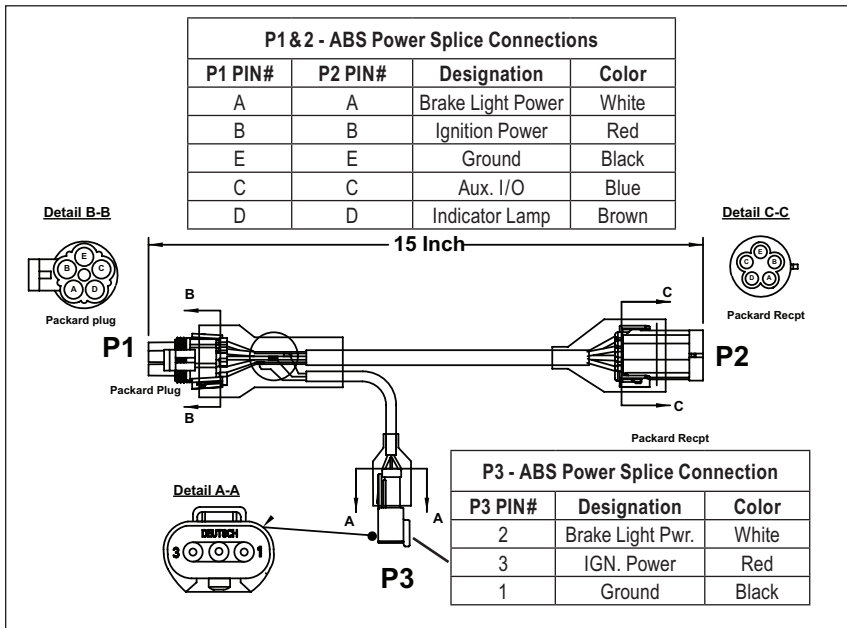
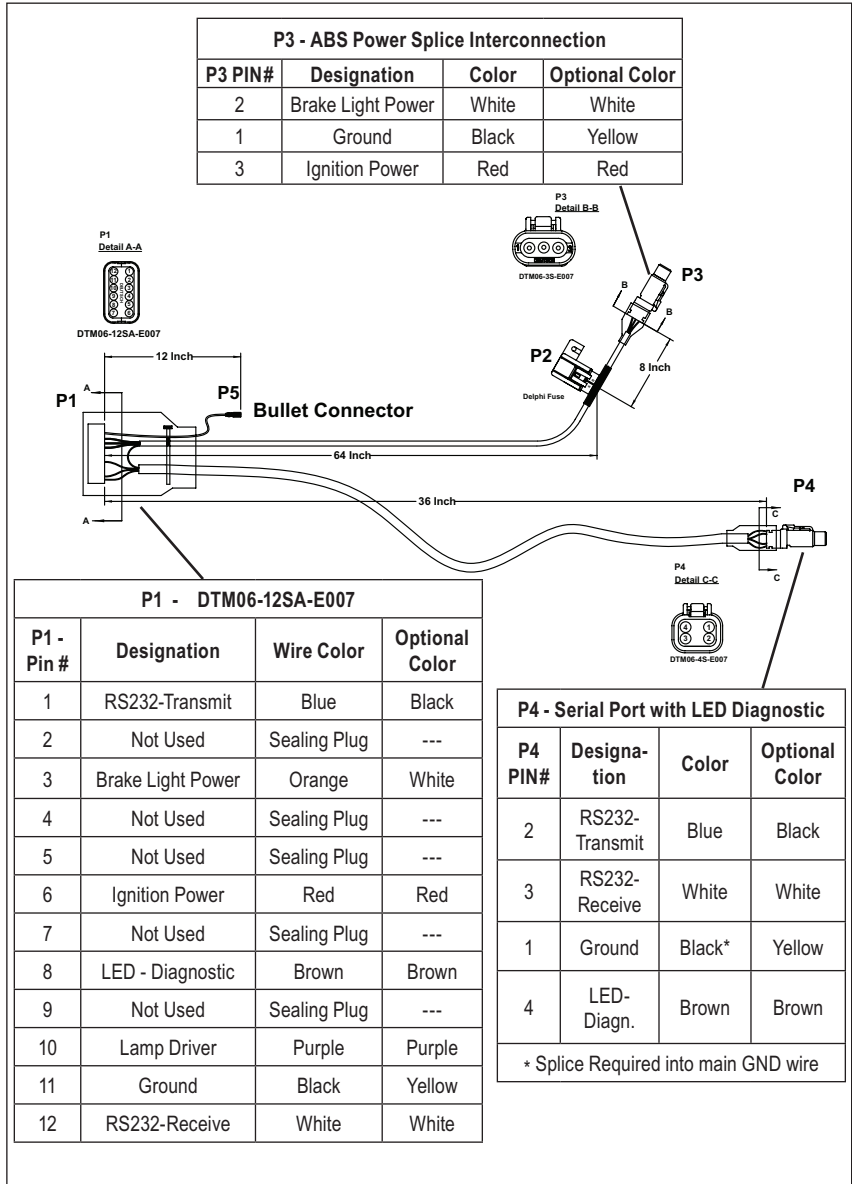

Figure 16 - SmarTire Trailer-Link™ TPMS ABS Power Splice (Part No: K075867)
Figure 17 - 6ft SmarTire® Trailer-Link™ TPMS Harness Part No: K075868
**Step 6.** After installing the ABS Power Splice harness, connect the 3-pin power connector, (P3 in Figure 16) to the SmarTire Trailer-Link™ TPMS Wiring Harness, (P3 in Figure 17). Then route the harness along the underside of the trailer, taking care to avoid any slider mounts and suspension components. Secure the harness every foot with zip ties. Connect the other end of the harness, P1 in Figure 17 to the SmarTire Trailer-Link ECU.
**Step 7.** Route the 4-pin diagnostic LED line to the side of the trailer or slider and secure the line every foot with zip ties. Ensure the Bendix diagnostics LED Cap part number K075866 is placed over the end of the diagnostic connector, P4 in Figure 17 when not used with the Maintenance Hand tool. Connect the trailer to power and watch for the LED to light up briefly to confirm the SmarTire Trailer-Link ECU is functional. Refer to the blink code table in *Section C* for more information.
If the optional trailer warning lamp is not installed, please use the supplied dielectric grease and fill the trailer lamp output connector (P5 in Figure 17) with grease to protect it from corrosion. For instructions on how to install the optional trailer warning lamp, continue to step 9.
**Optional Step 9.** Using the lamp output connector (P5 in Figure 17) a trailer lamp may also be installed at the nose of the trailer to provide trailer TPMS alerts regardless if the tractor is equipped with a SmarTire TPMS unit. Extend a power line from the connector to the lamp (standard 12-24V lamp with max one (1) Amp draw can be used, not provided by Bendix) and ground the lamp to the trailer chassis at its mounting point. Place the provided Trailer Lamp alert sticker underneath the trailer lamp. See *Section C* for blink codes.